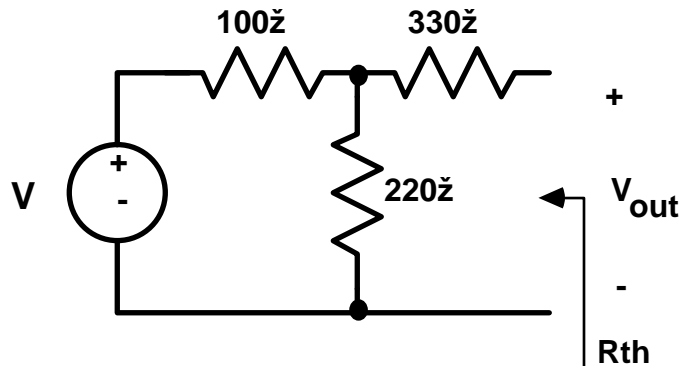

Figure 10.1
(I) Find the Thévenin and Norton equivalent circuits for Figures 10.1 & 10.2. Now with $V = +10$ volts, determine the power absorbed by the $100\ \Omega$ resistor if the output terminals were shorted (to determine i_{sc}).
(III) Calculate the minimum and maximum V_{th} for Figure 10.1 using 10% tolerance resistors.